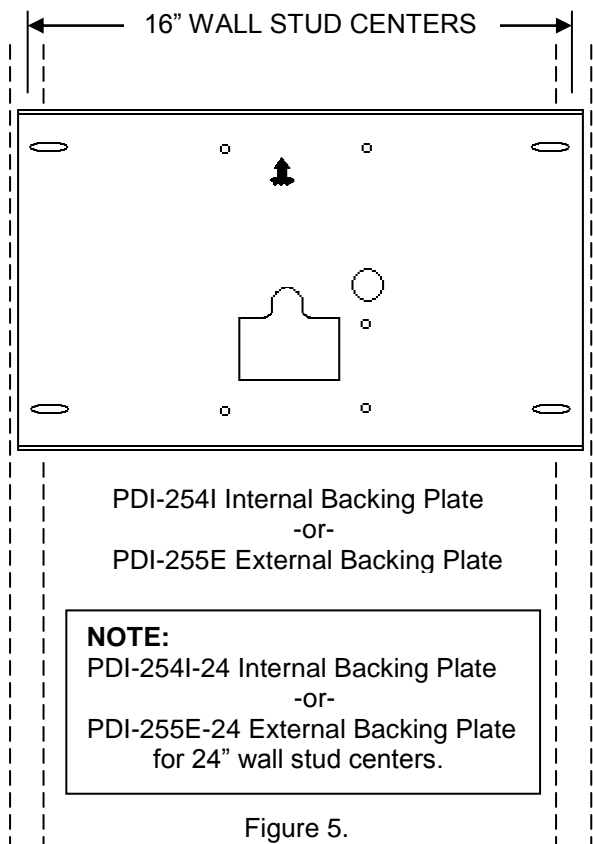

Figure 5.
- FABRICATED BACKING PLATE** – A fabricated plate is used that holds welded-on or pressed-in studs. The studs (1/4"-20UNC-2A) would be located on hole centers that coincide with the wall bracket. The plate is then secured to the wall studs. A prefabricated plate PDI-254I or PDI-254I-24 is available from PDI see figure 5. An external plate is also available. Consult the backing plate instructions packed with each plate for installation details.